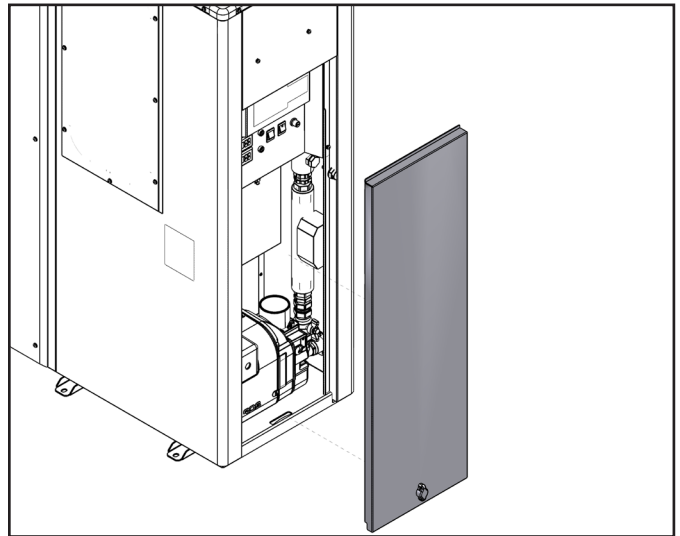

Figure 7-6: Removal of boiler access panel
2. To access the control panel remove the boiler/burner access panel on the right hand side of the boiler casing. Turn the handle at the bottom clockwise to release the catch. Pull the panel forwards at the bottom and remove it from the boiler. Refer to Figure 7-6.